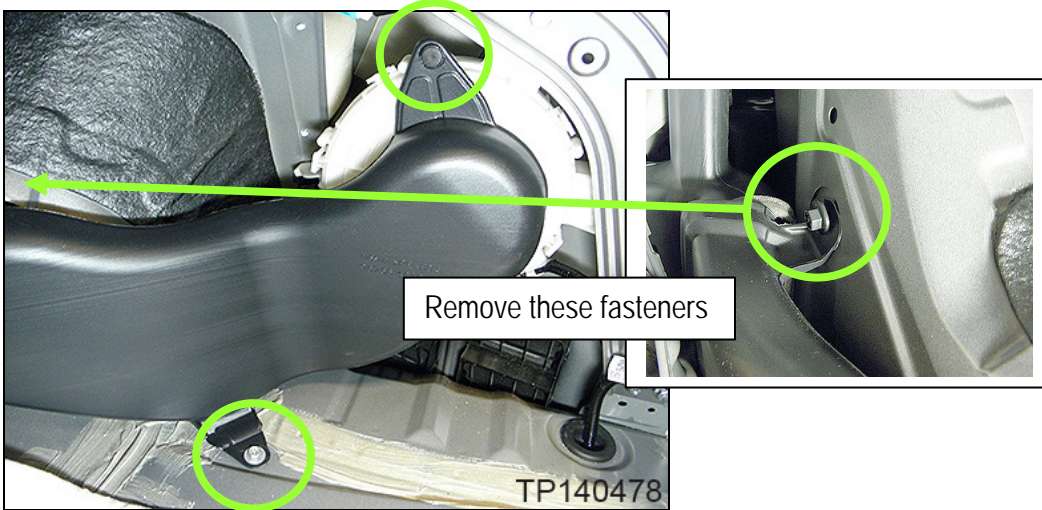

Figure 4
7. For HEV vehicles only, remove the battery cooling fan duct attached on right side of trunk (Figure 4).